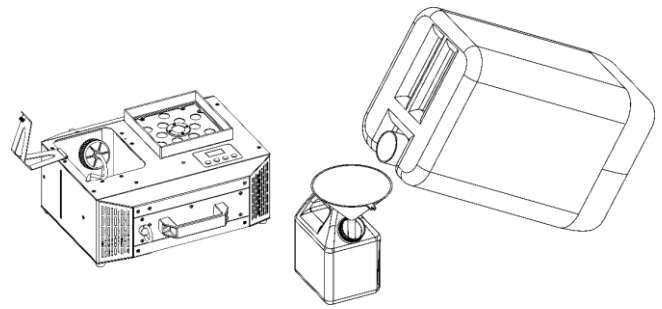

Fig. 33
07) Use a funnel to pour the fog fluid into the tank, as shown in Fig. 33.